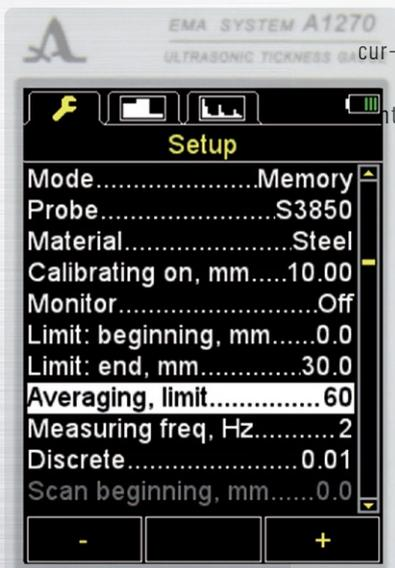

Figure 37
**Note:** when setting the value „1“ it is permissible to perform measurements via scanning the surface of the tested object. Screen appearance of the instrument's AVERAGING, Limit option is presented in Figure 37.